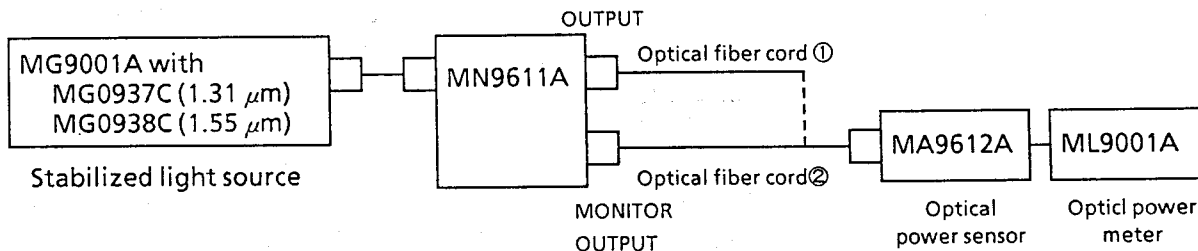

Fig. 7-5 Test System (4)
1. Figure 7-5 shows the block diagram of the test system that measures the difference in loss of output for monitoring optical signal. Connect the OUTPUT connector of the MN9611A to the MA9612A with the optical fiber cord ①, and press the [RELATIVE] key of the ML9001A to display "0 dB".
2. Then, connect the MONITOR OUTPUT connector of the MN9611A to the MN9612A with the optical fiber cord ②. At this time, the displayed value on the indicator of the ML9001A is the difference in loss.